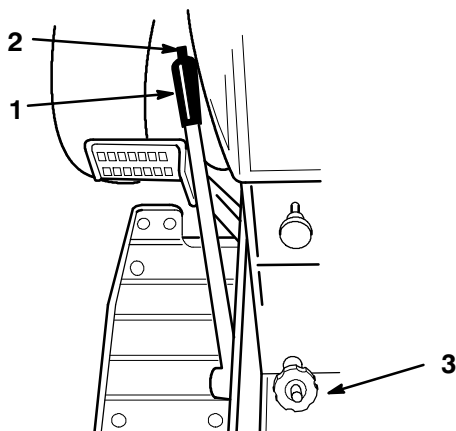

Figure 13
The attachment lift lever (Fig. 13) is used to raise and lower various attachments.
The Dial-A-Height control (Fig. 13) is used to limit the downward travel of attachments other than mowers. For example, use the Dial-a-Height to hold the blade or snowthrower above a gravel drive to prevent picking up stones or hold the tiller at a selected depth. For mowing, turn the Dial-a-Height fully counterclockwise until the knob contacts the plastic thread cap, so the mower can move through its full range of travel. Use the mower's height control to set cutting height. To use the Dial-a-height:
1. Raise the attachment lift lever: Refer to Raising Attachments. In the raised position the Dial-A-Height knob (Fig. 13) can be rotated to change the stop location. Turn right to raise and left to lower the height of the attachment.